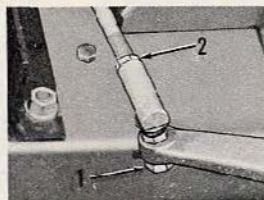

FIGURE 21
3. Remove nut and washer from steering arm, Figure 21, Ref. 1.
4. Loosen locking nut, as illustrated in Figure 21, Ref. 2.